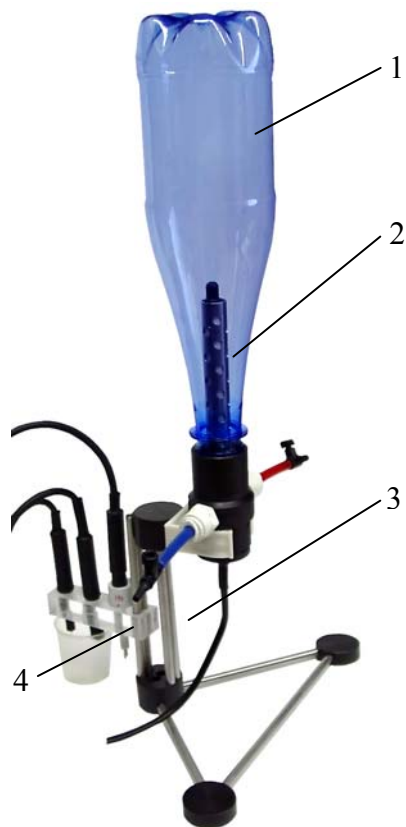

Fig. 10. Installation assembly for obtaining anolytes and catholytes of aqueous solutions
- 7.7.3. Assemble the installation according to Fig.10. Pour the prepared solution into the process container and keep it there for 5 min (to saturate the membrane).